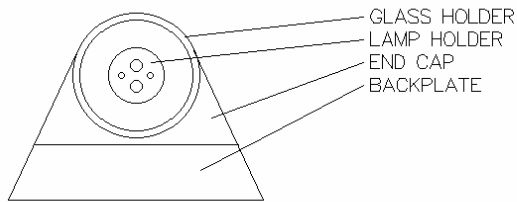

FIG. 4
6. Insert lamp and cylinder into the stationary end of the fixture. The two pins on the end of the lamp go into the smaller holes in the lampholder. Slide the movable glass holder over the end of the cylinder and secure with knob. (Figure 4)